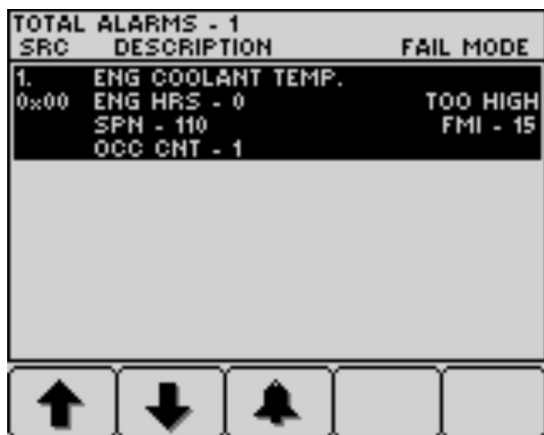

Figure 81
3. Press button 1 through 5 to view the active fault list (Figure 81).
4. Press button 1 through 5 to view the active fault list ; refer to Figure 81 in Engine Advisories Messages (page 44).